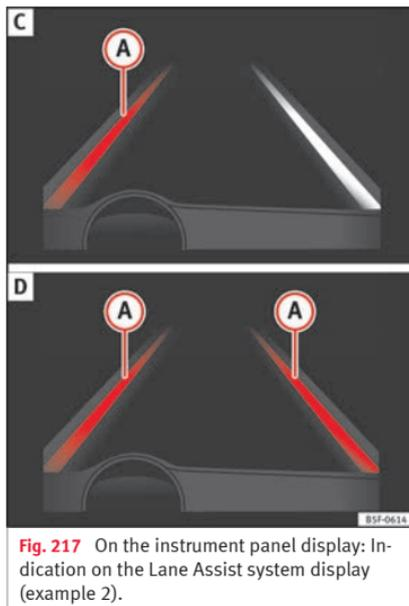

Fig. 217 On the instrument panel display: Indication on the Lane Assist system display (example 2).
- The system is operational, the highlighted line **A** indicates that there was a risk of involuntarily crossing the lane line and that the steering is being adjusted to correct the angle »» Fig. 217 C.
- The two lines **A** light up simultaneously when both lane lines are recognised and the Lane Assist function is active »» Fig. 217 D.